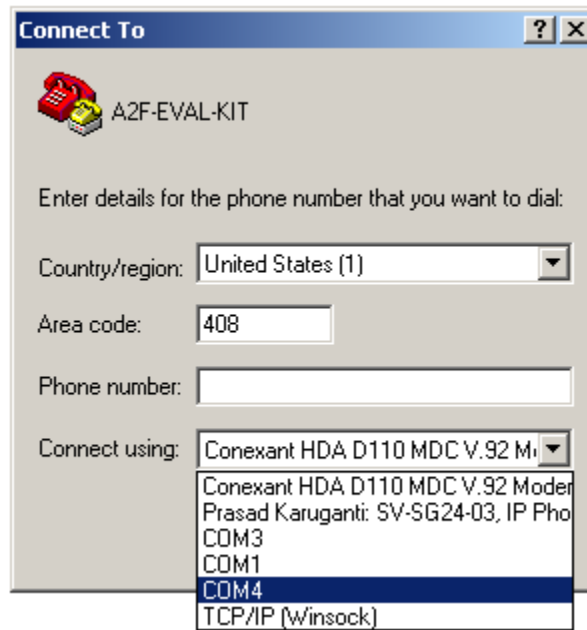

Figure 7-7 • HyperTerminal Port Selection
2. The Connect To window is displayed. Select the COM4 serial connection (Figure 7-7).